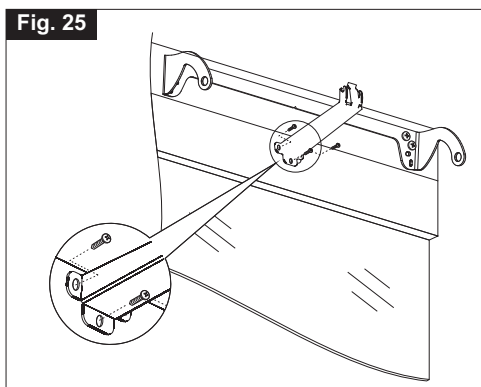

Fig. 26
- 7) **Fig. 26-** Tighten with the two standard supplied screws (**Ref. 1**) the actuator on the bracket connecting it to the window frame;